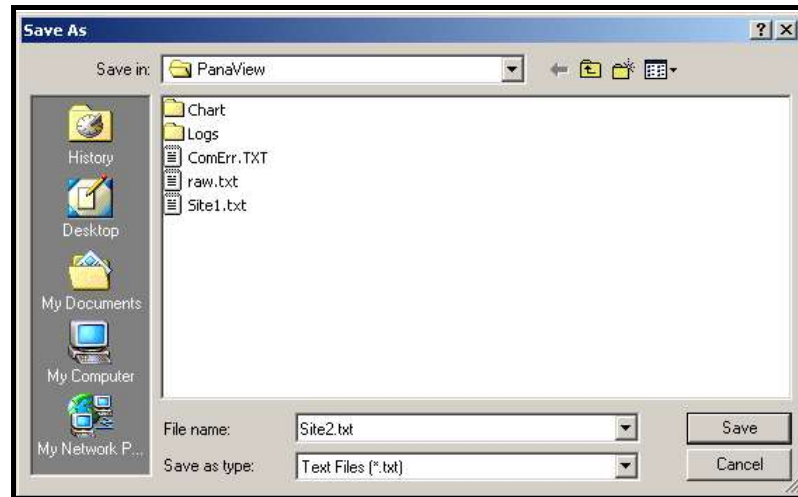

Figure C-13: Save As Window
To *save* the raw signal, click *Save*. A window opens similar to Figure C-13 below. Enter the desired name, and click *Save* to save the signal as a text file.
2. Click *Save Site to PC*. A window opens similar to Figure C-13 on page C-9.